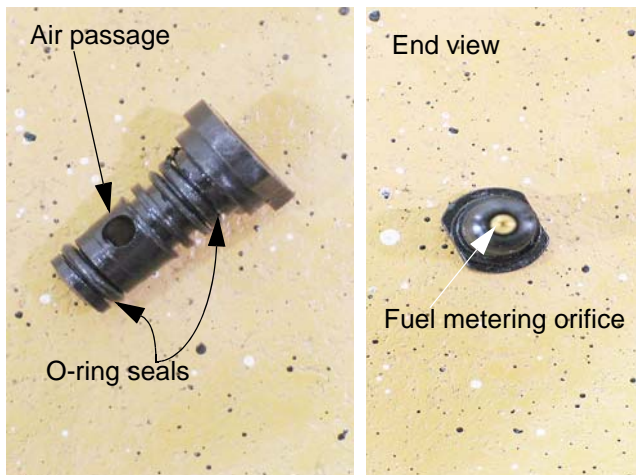

Figure 4.47
- Examine the metering plug: See Figure 4.47.